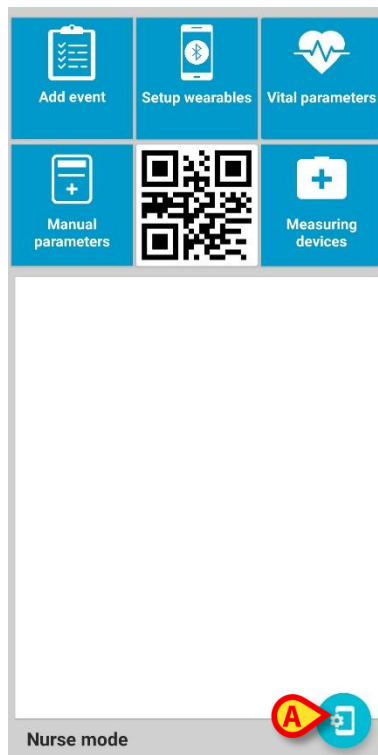
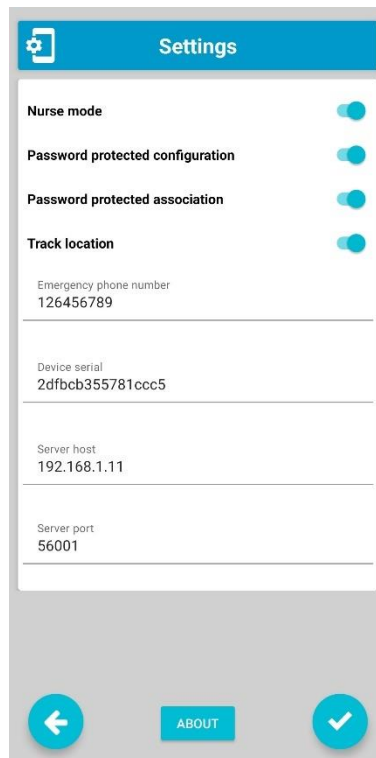

Fig 18
Fig 19
- Tap the "Settings" button (Fig 18 A) to open the settings page (Fig 19) and configure the application.